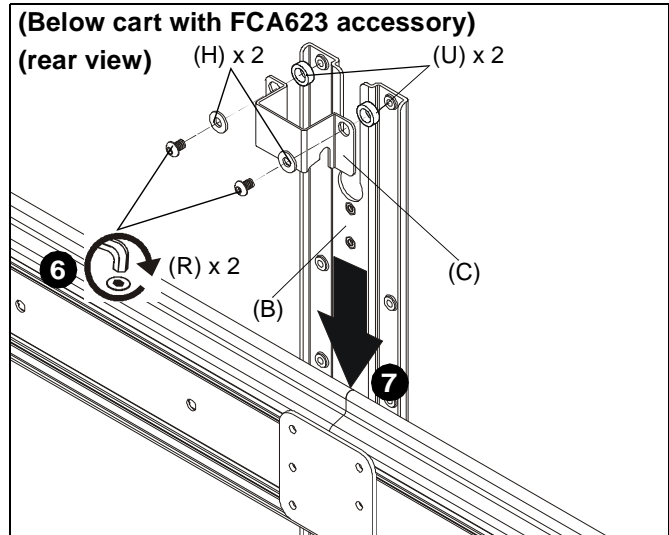

Figure 10
6. Use two 1/4-20 x 7/16" button head cap screws (R), two large washers (H) and two 1/2" spacers (U) to secure shelf bracket (C) to main bracket (B). (See Figure 10)
7. Slide main bracket (B) onto front of cart/ceiling mount head assembly until shelf bracket (C) rests on top of head assembly. (See Figure 10)